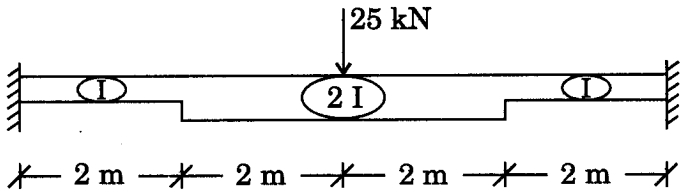

Figure 4
5. Calculate the fixed end moment and vertical support reactions for the beam shown in Fig. 4. Draw B.M. and S.F. diagrams.